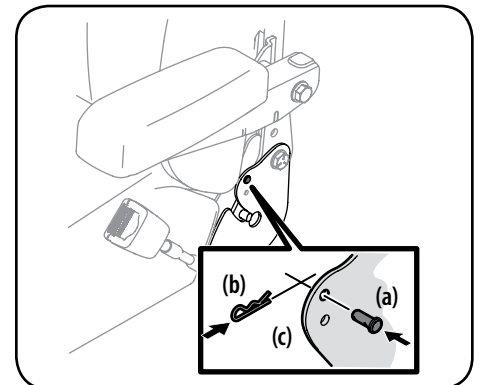

Figure 2-10
- Tilt the seat forward until the recliner bearing plate (c) is below the clevis pin (a) and then re-insert the cotter pin (b) to secure the seat in place. See Figure 2-10.